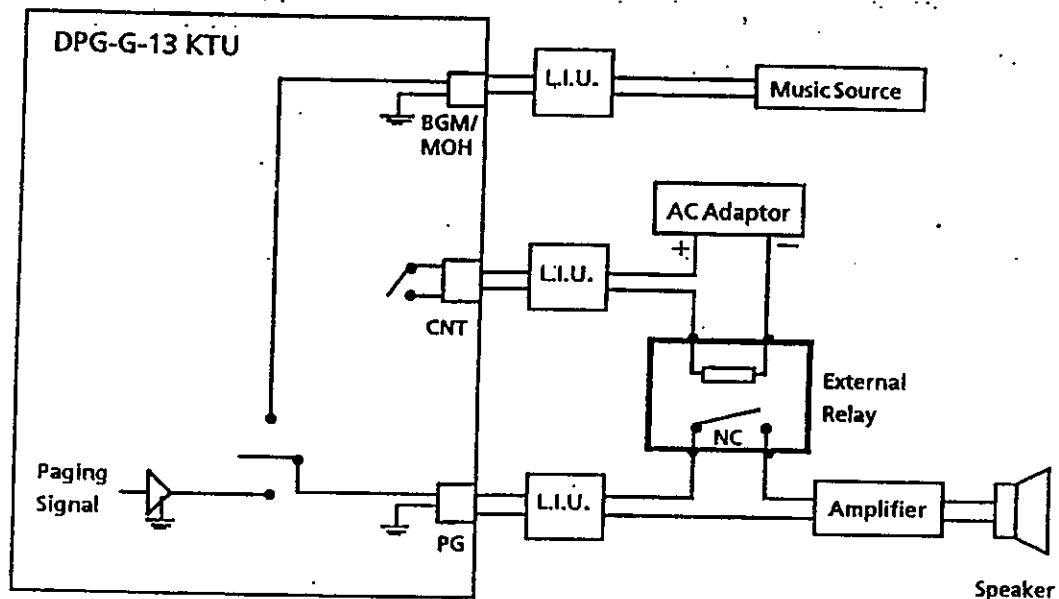

Figure 1-64 External Paging without BGM
2. When BGM is specified in system programming, music will be automatically played over the External Paging system (if installed). To disable this, connect an external relay as shown in Figure 1-64 - External Paging without BGM.
2. In Figure 1-64, the relay contact connected to one of the General Purpose Relays is opened when the external speaker is operated. This General Purpose Relay must be set to "MOH/BGM" in System Programming.